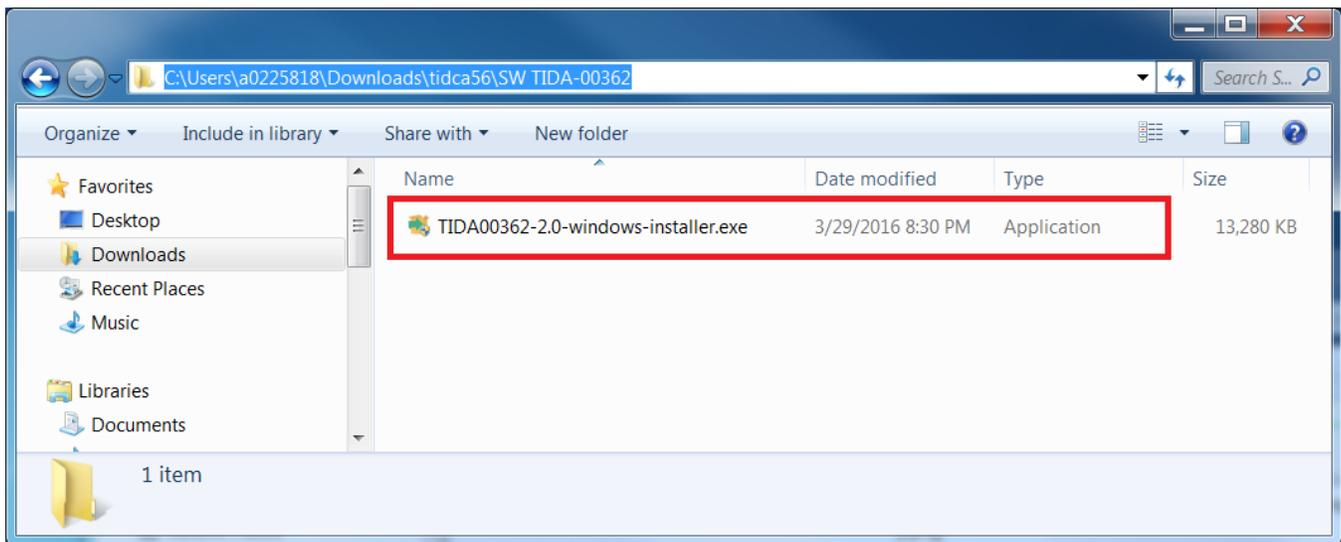

Figure 2-19. 3D Scanner Reference Design Installation Executable
2. Install the 3D Scanner Reference Design by executing the file "TIDA00362-***-windows-installer.exe," as shown in Figure 2-19.